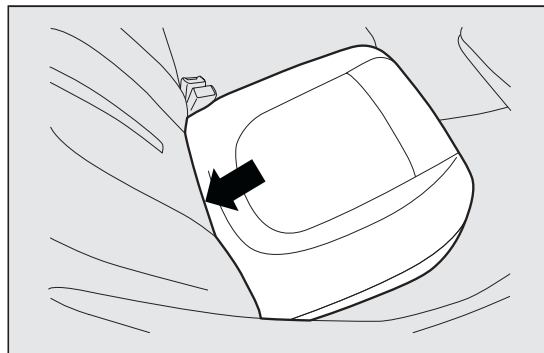

fig. 90
- ☐ fold the desired cushion forwards fig. 90 working in the point shown by the arrow;